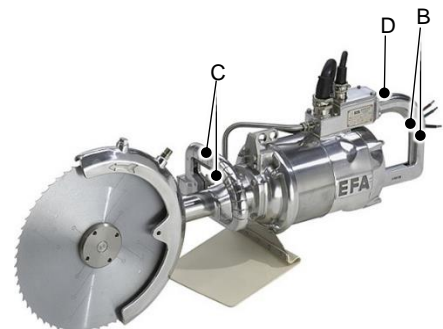

Fig. 6.2 – Switch operation
**EFA SK 40 E** – see Fig. 6.2 –